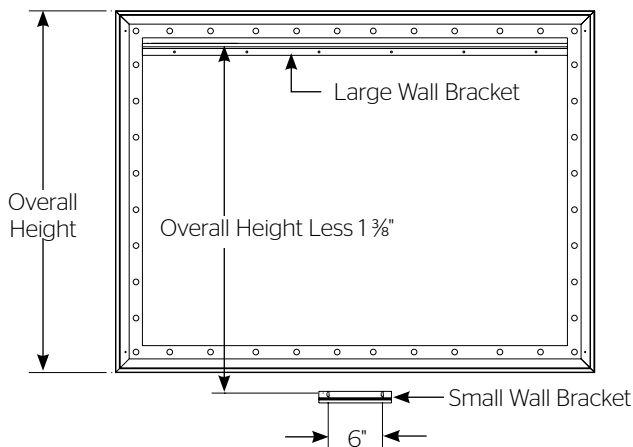

Figure 3
2. To install the lower wall bracket, you must measure the overall height of the screen frame and subtract 1-3/8". Using that dimension, measure down from the top edge of the wall bracket and mark the wall for two screw holes. The holes should be centered within the frame and 6" apart. Refer to Figure 3.